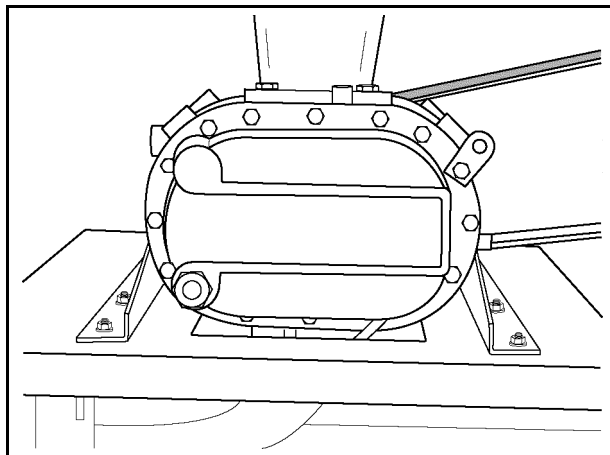

Figure 7G
7. The oil level should be at the center of the sight glass on the blower. Add part number MS5389 if required. DO NOT Operate Blower Until Correct Oil Level is Indicated! The 4" roots blower has sight glasses on both ends. Be sure oil levels are indicated on both sight glasses. (See Figure 7G).